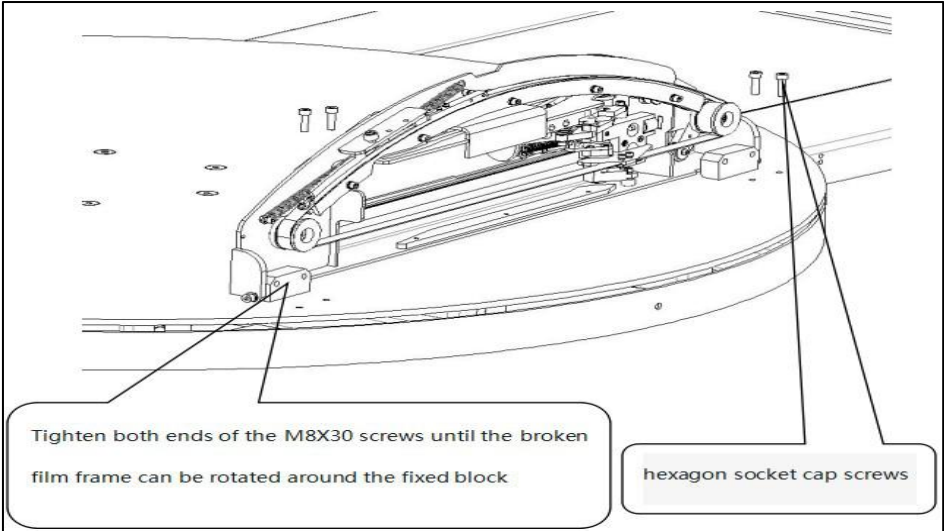

Figure 4.5.4.1 Fixed cutting film device
(1) Place this device on the turntable vertically (be careful to avoid scratching or damaging parts). The hole in the installation block of the film breaking device should be aligned with the threaded hole on the turntable. Use the M8*25 hexagon socket head cap screw to lock the film breaker on the turntable as shown in Figure 4.5.4.1.
(2) Rotate this device around the fixed block and place it on the surface of the chassis as shown in Figure 4.5.4.1.